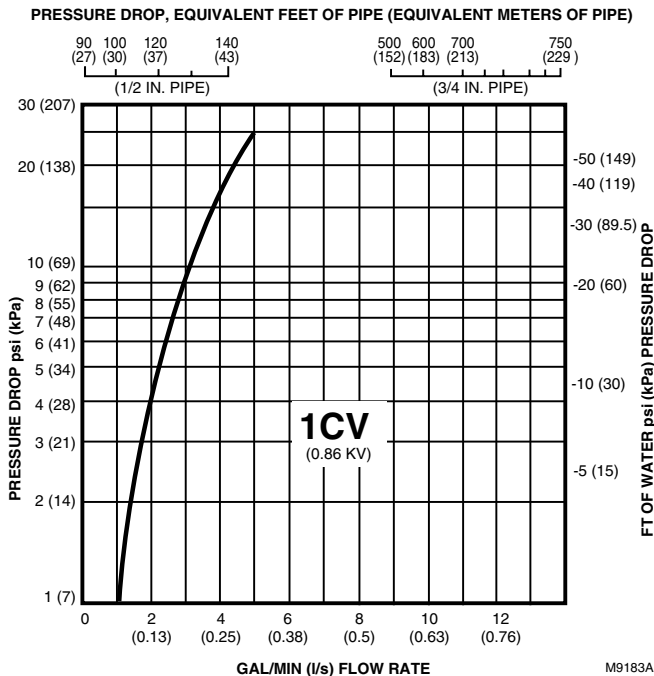

Fig. 3. Flow characteristics of 1 Cv (0.86 kV) flow.
The pressure drop in psi (kPa), equivalent ft (m) of pipe, or feet of water (kPa) can be calculated from Fig. 3 through 8 as follows:
- 3 Select the graph corresponding to the  $C_V$  (kV) rating (Fig. 3 through 8).